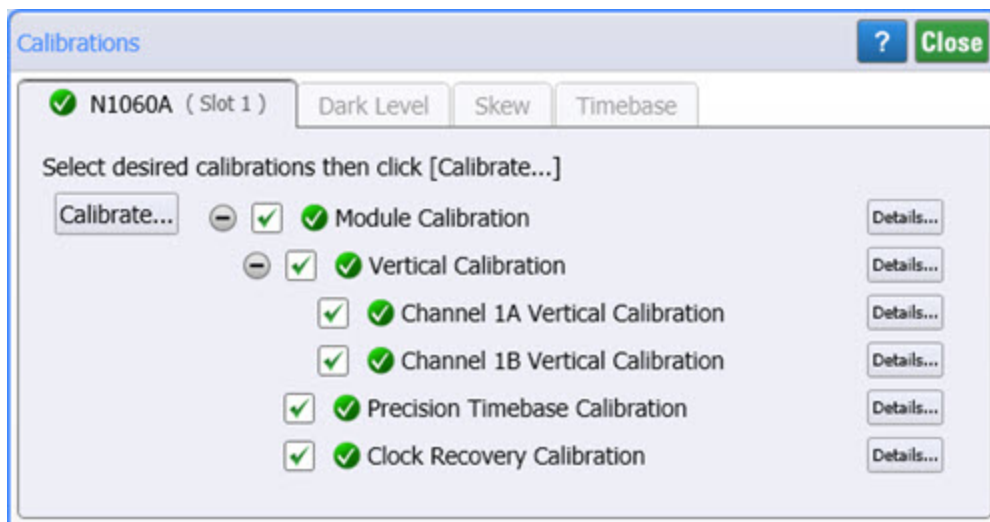

Figure 16. Calibrations Dialog
2. Click **Tools > Calibrations**. The Calibrations dialog opens as shown in Figure 16.